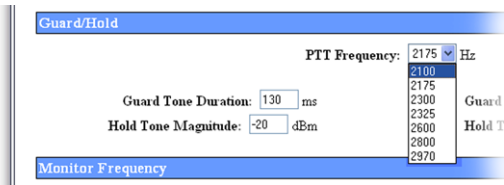

FIGURE 103. PTT Frequency Drop Down Menu
The **FTone (1–16) Frequency** fields identify the value, in Hz, associated with each function tone burst. If the second value is set at zero (0), no second function tone is sent. The standard function tones and the frequencies are shown in Figure 103.